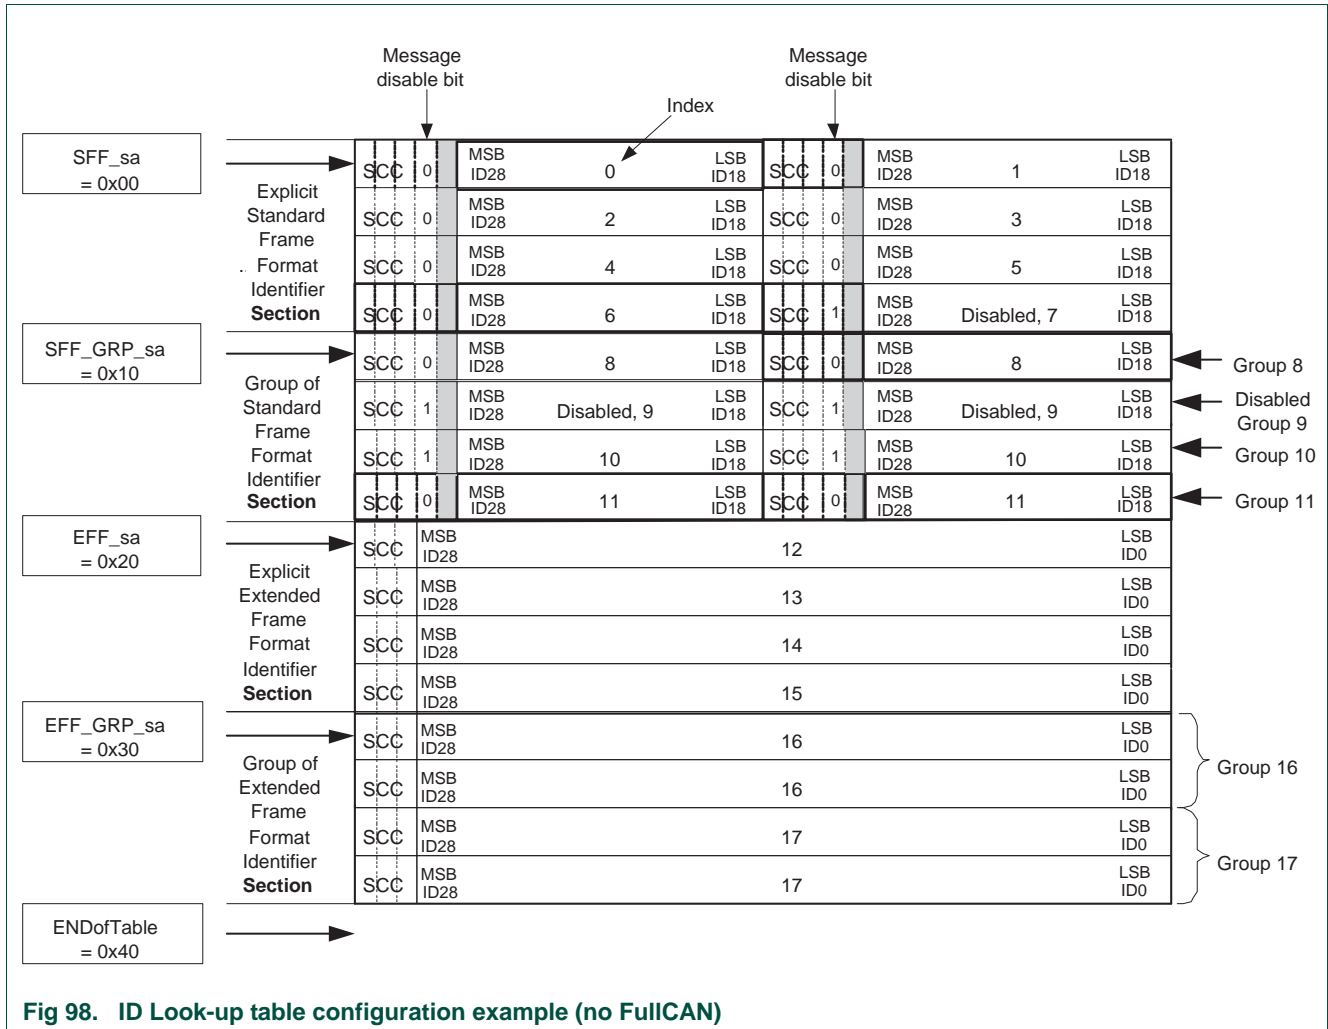

Fig 98. ID Look-up table configuration example (no FullCAN)
The Table below shows which sections and therefore which types of CAN identifiers are used and activated. The ID-Look-up Table configuration of this example is shown in Figure 98.
**Explicit extended frame format identifier section (29-bit CAN ID, Figure 98)**
**Group of extended frame format identifier section (29-bit CAN ID, Figure 98)**